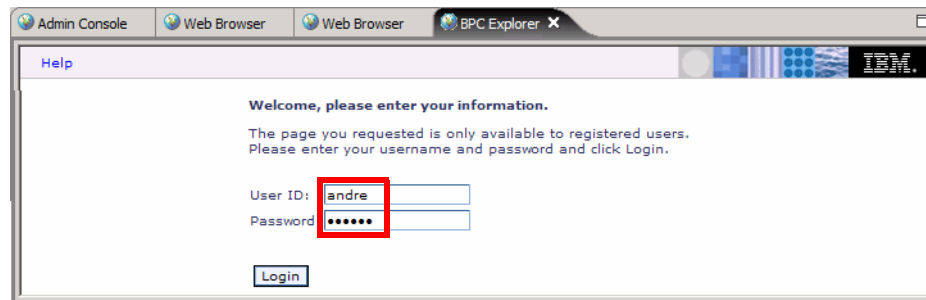

Figure 11-20 BPC Explorer: login
- ▶ You are prompted to login (Figure 11-20).